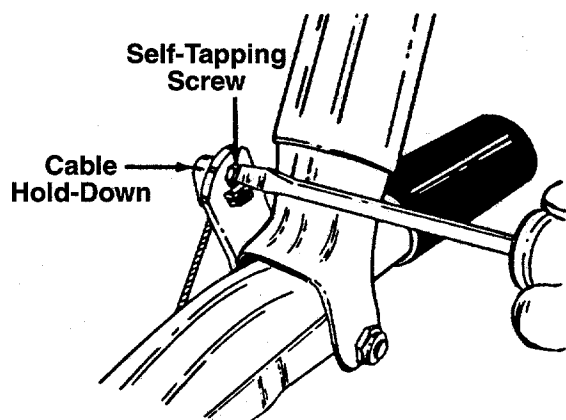

FIGURE 6.
4. Pull the cable upwards to obtain slack, lift the clutch grip, and insert the cable hold-down into the clutch grip. Secure with self-tapping screw. See figure 6.